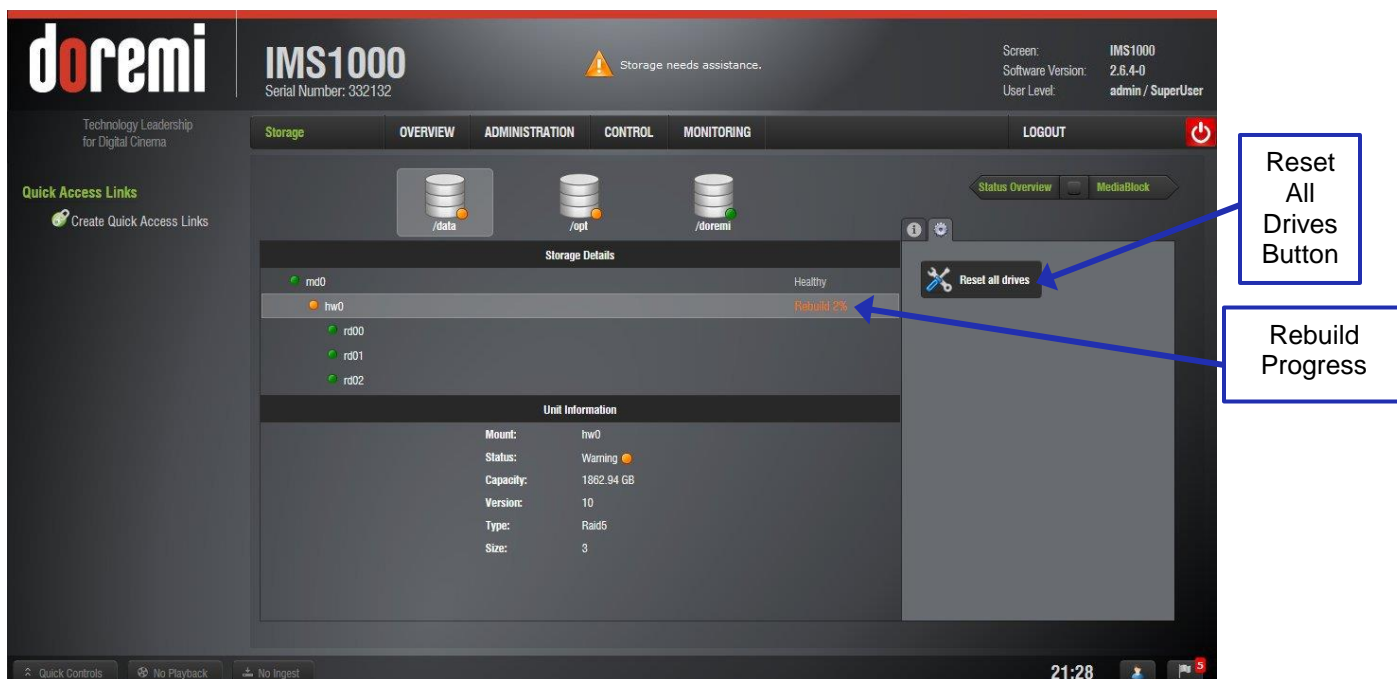

Figure 335: Rebuild Status
The Storage tab will allow you to view the rebuild progress in Storage Details after you have replaced and inserted a new disk (Figure 335).
To build the RAID, go to the Reset All Drives tab in the Storage tab (Figure 335).
- Click the Reset All Drives button (Figure 335).